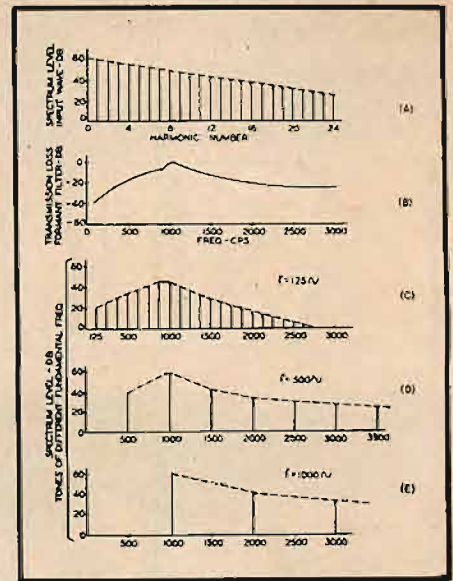

Fig. 2. How the formant affects the spectrum of an instrument.
Figure 2 shows an example, a curve of the spectrum of a hypothetical instrument. This instrument is so constructed that it tends to emphasize any tones occurring at and around 1,000 cps. Let us put into this instrument at the mouthpiece a sawtooth wave. Such a wave has a large progression of harmonics, each of which is inversely proportional in power content to its ordinal number; that is, the 3rd harmonic has $\frac{1}{3}$ the power of the fundamental, the 7th has $\frac{1}{7}$ the fundamental power, and so on. The harmonic content of this wave is shown in (A). In (B) you see the curve showing the shape of our instrument's frequency spectrum.